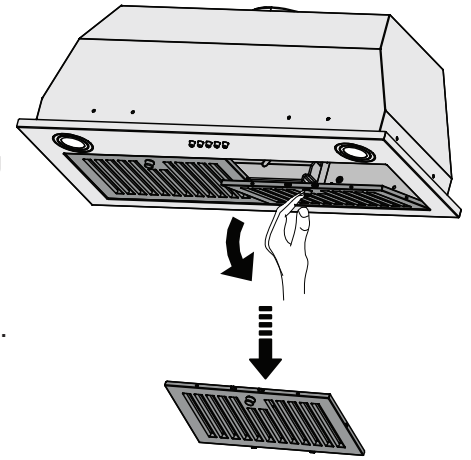

Figure 3
- Remove the baffle filters by grabbing the handles, slightly pushing upwards, tilting and then removing (see Figure 3).